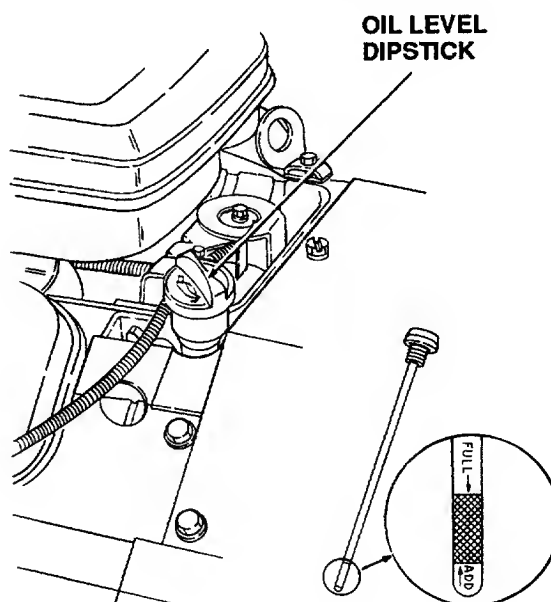

Figure 21
3. Remove the oil filler cap from the left valve cover and SLOWLY pour in oil. Fill the crankcase until the oil level reaches the "FULL" mark on the dipstick (Refer to Figure 21).
3. Remove the oil filler cap from the valve cover and SLOWLY pour in oil. The oil capacity is approximately 3-1/2 pints. Fill the crankcase until the oil level reaches the "FULL" mark on the dipstick (Refer to Figure 21).